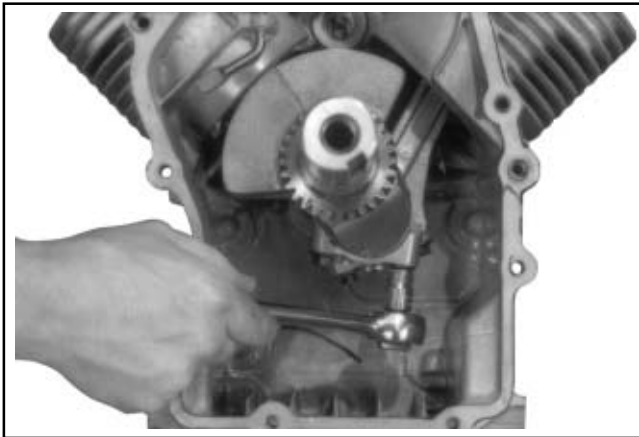

Figure 9-65. Removing Connecting Rod Bolts.
1. Remove the two hex. flange screws securing the closest connecting rod end cap. Remove the end cap. See Figure 9-65.